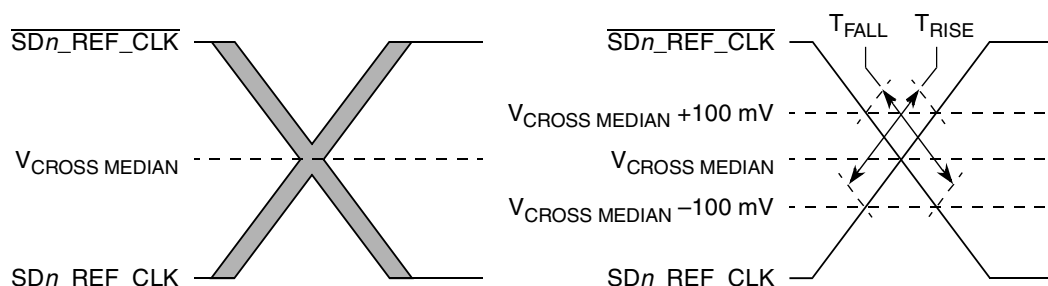

Figure 58. Single-Ended Measurement Points for Rise and Fall Time Matching
4. Matching applies to rising edge rate for $\overline{SDn_REF_CLK}$ and falling edge rate for $\overline{SDn_REF_CLK}$. It is measured using a 200 mV window centered on the median cross point where $\overline{SDn_REF_CLK}$ rising meets $\overline{SDn_REF_CLK}$ falling. The median cross point is used to calculate the voltage thresholds the oscilloscope is to use for the edge rate calculations. The Rise Edge Rate of $\overline{SDn_REF_CLK}$ should be compared to the Fall Edge Rate of $\overline{SDn_REF_CLK}$, the maximum allowed difference should not exceed 20% of the slowest edge rate. See Figure 58.